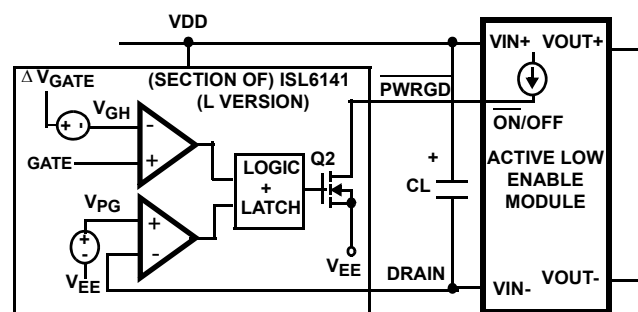

FIGURE 30. ACTIVE LOW ENABLE MODULE
**ISL6141** (L version; Figure 30): Under normal conditions (DRAIN voltage -  $V_{EE} < V_{PG}$ , and  $\Delta V_{GATE} - V_{GATE} < V_{GH}$ ) the Q2 DMOS will turn on, pulling  $\overline{\text{PWRGD}}$  low, enabling the module.